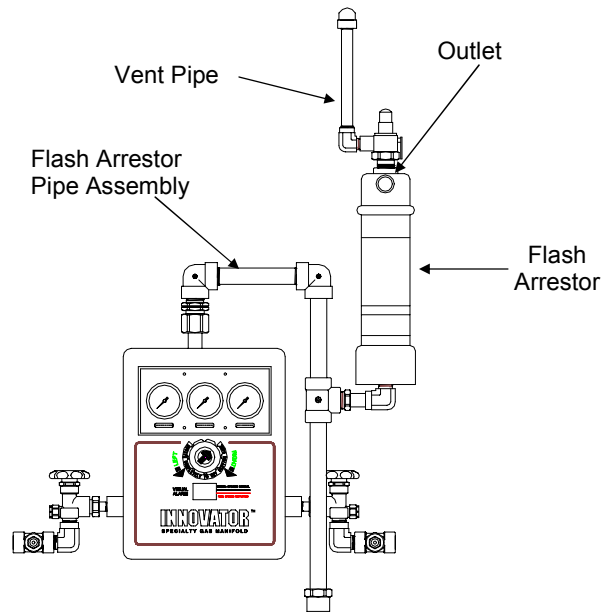

Figure 9
2. Secure the flash arrestor pipe assembly to the manifold outlet (Figure 9).